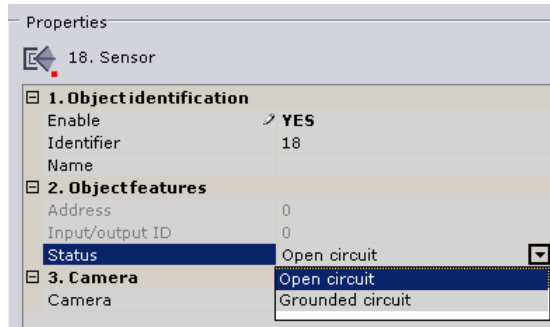

Fig. 6.4—24 Selecting sensor status
4. Set the status in which the sensor is to be in the absence of an alarm (Fig. 6.4—24).